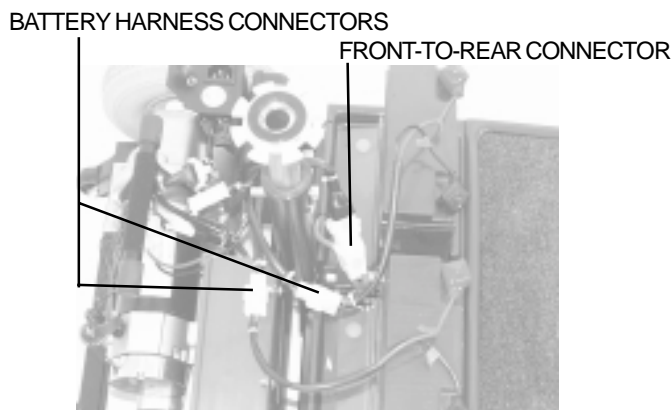

FIGURE 15. BATTERY HARNESS CONNECTORS/
5. Unplug both battery harness connectors. See figure 15.
7. Unplug the large, white, 9-pin front-to-rear connector that connects the front control console assembly harness to the electronic controller assembly harness. See figure 15.